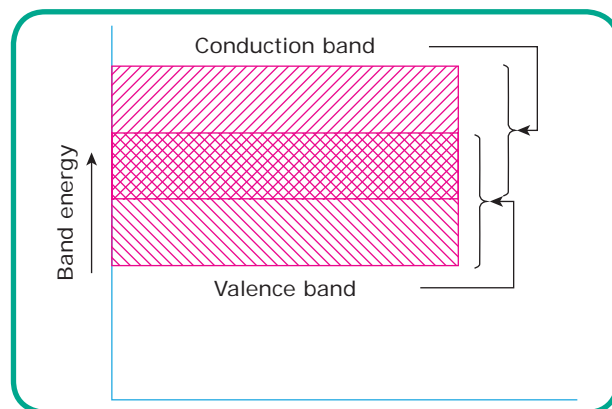

Figure3.8 Energy band of conductors
- a) **Conductors:** Metals (e.g. Copper, Aluminium) or conductors allow the passage of electric current through them, because of large number of free electrons available in a conductor. In terms of energy band, the valence and conduction bands overlap each other as shown in Figure 3.8.